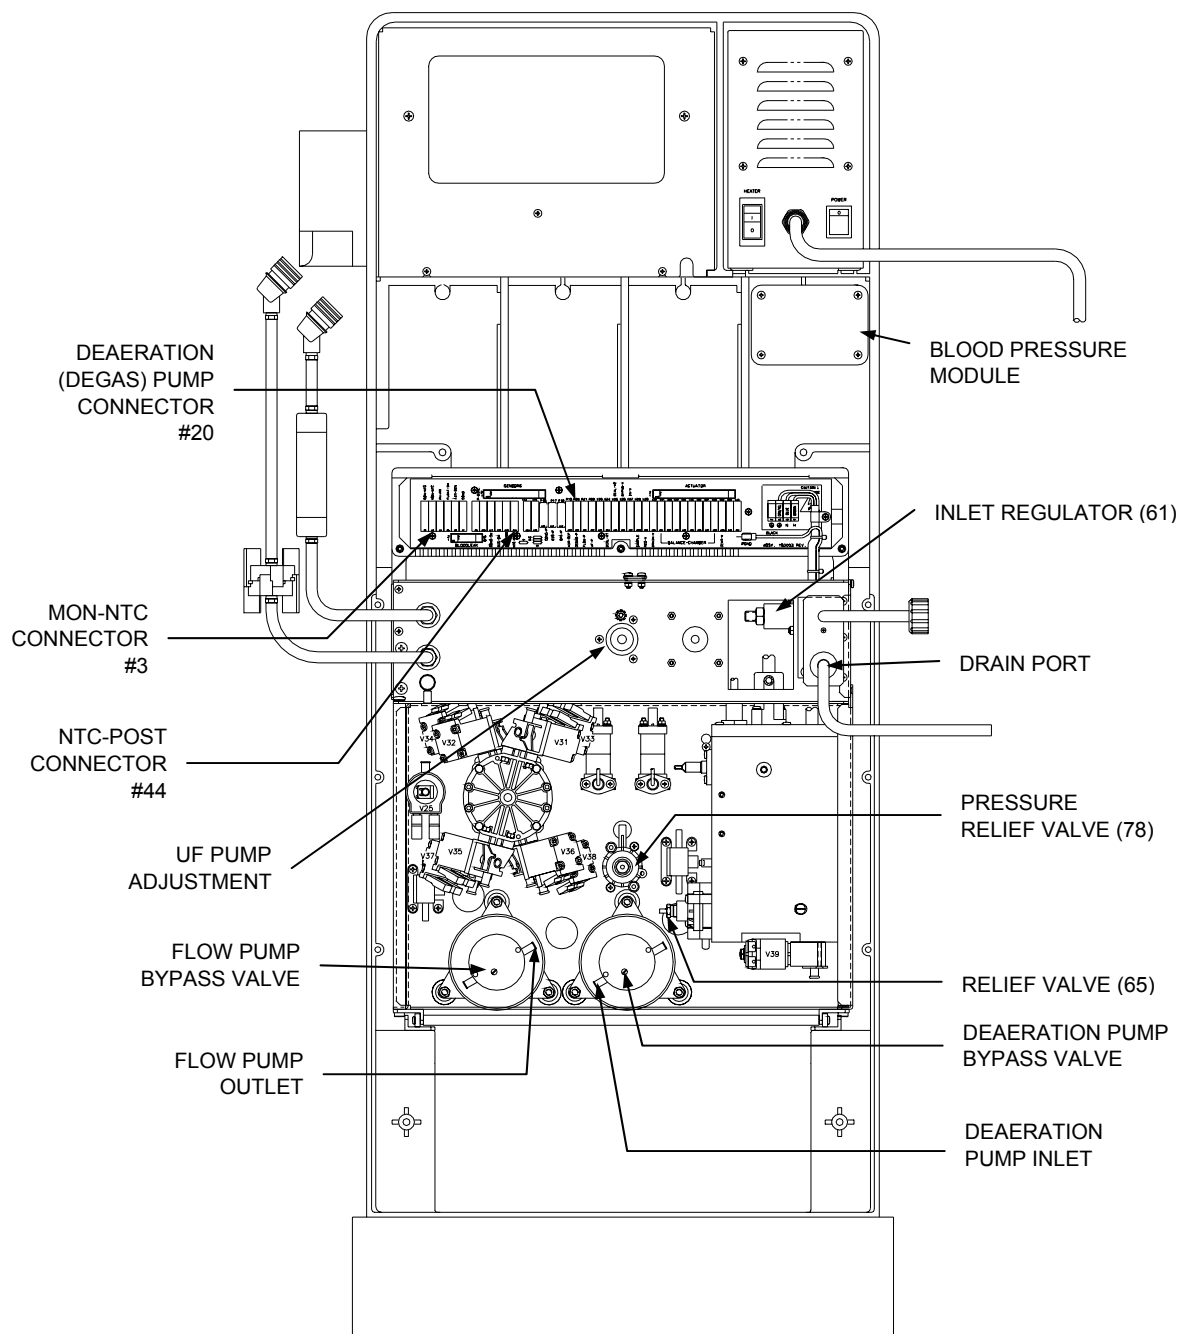

Figure 1 - 2008K Rear View
1. Connect a gauge in line at the inlet side of the deaeration pump (See Figure 1, pg. 5).
5. Adjust the deaeration pump bypass valve (See Figure 1, pg. 5) on the deaeration pump for a reading of -24 inHg on the gauge attached to the deaeration pump. The gauge needle will be wiggling slightly. Set the pressure so the maximum value is -24 inHg and verify that the needle does not go below -25 inHg. If these values cannot be reached, set the deaeration pump bypass valve for the closest reading possible, then select a higher **PUMP RATE** value until the proper pressure is indicated on the gauge.
6. The loading pressure gauge in the red **RINSE** port will be cycling between two pressure levels. Adjust pressure relief valve #65 (See Figure 1, pg. 5) for a reading between 18 and 20 psi when the gauge is reading its highest pressure level. Verify that the pressure is greater than 10 psi at the lowest level, and that it is stable within 1 psi at each level.
1. Connect a gauge in line at the output of the flow pump (See Figure 1, pg. 5).